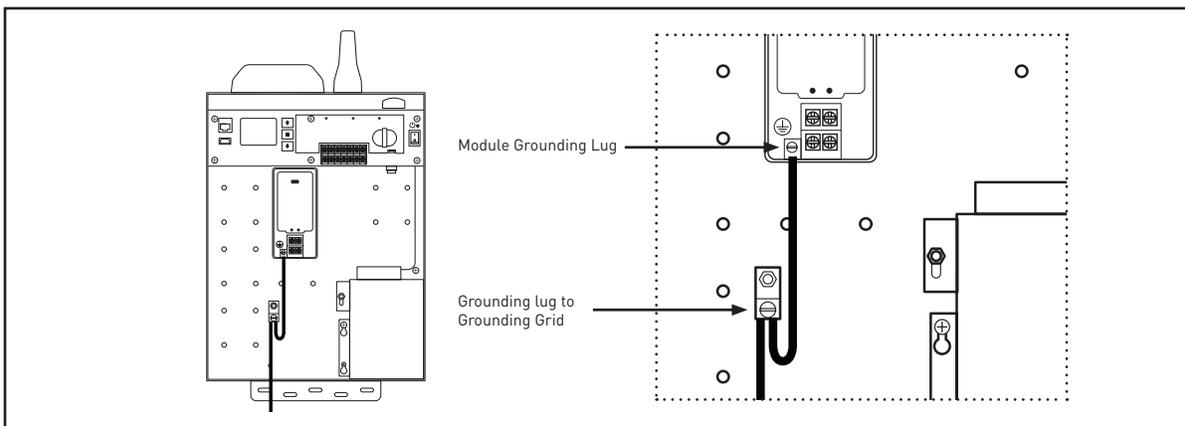

Figure 11. Ground the Module
Step 5 – After testing with a megohmmeter, attach a wire from the grounding lug in the controller to the ground position on the HSC-6300-MD module in the controller, as seen in Figure 11.